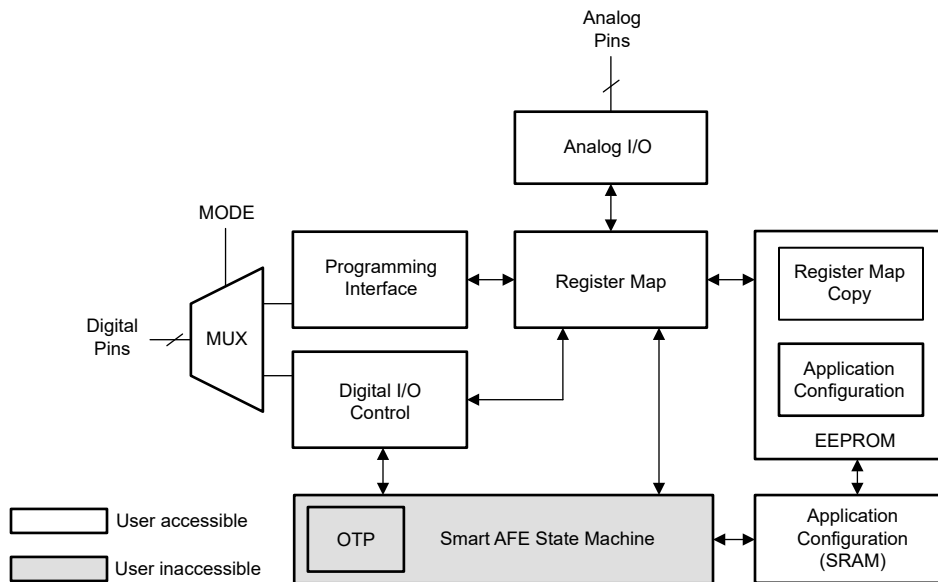

Figure 7-4. Smart AFE Architecture
The AFEx39xx feature a programmable state machine supporting arithmetic, logic, and timing operations, as shown in Figure 7-4. This state machine has been pre-programmed as a proportional-integral (PI) controller allowing the user to program the coefficients and input-output parameters. The details of the PI controller are discussed in Section 7.4.6. The user configurations are stored in the NVM and the state machine can be operated in standalone mode without interfacing to a processor (*processor-less operation*)